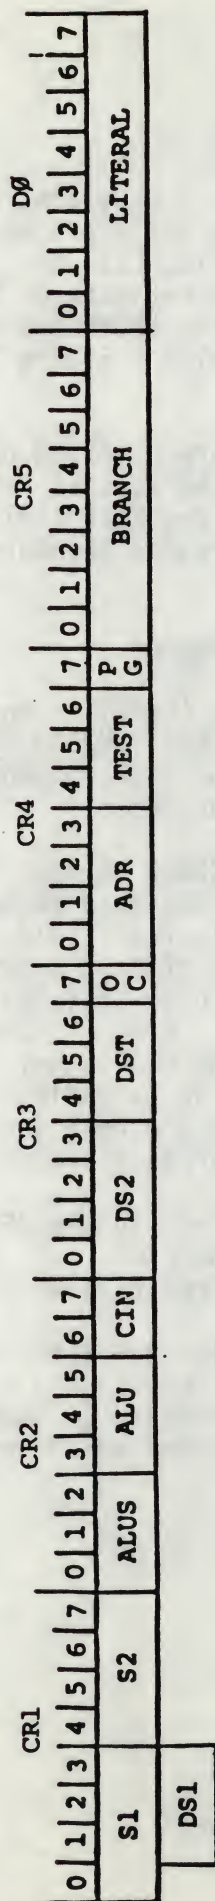

FIGURE 5-8 Microinstruction Word
The control memory stores the firmware that controls the operation of the coupler. It comprises six 512 x 8 bit programmable read-only-memories (PROMs) identified as D9, D10, D11, D12, F13, and F14, on Sheet 10. The Proms have a pipeline register at the output identified as the Control Register (CR). The six PROMs produce a 48-bit instruction word divided into six 8-bit fields. Figure 5-8 depicts the instruction word.